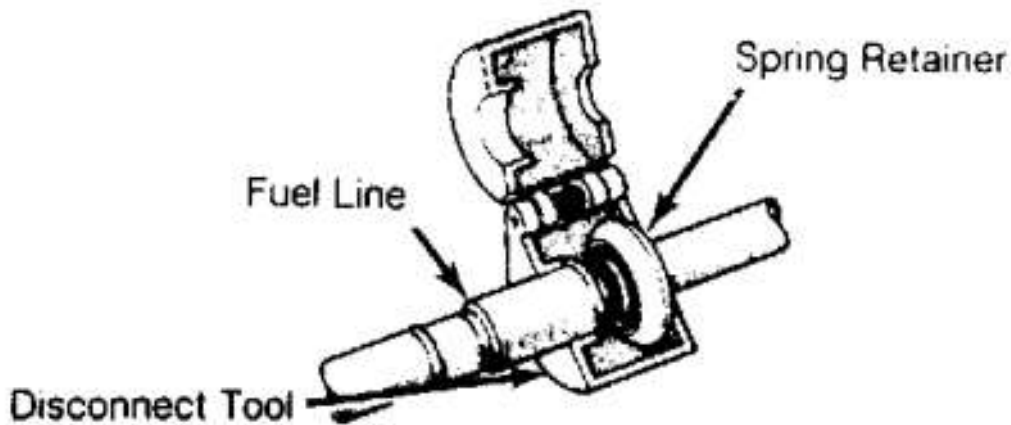

Fig. 2: Disconnecting Fuel Lines
6. Disconnect Thick Film Ignition (TFI) connector at distributor. Disconnect oil pressure sender. Release fuel pressure. See **FUEL PRESSURE RELEASE**. Using Disconnect Tool (D87L-9280-A) for 3/8" line or (D87L-9280-B) for 1/2" line, disconnect fuel supply and return lines. See **Fig. 2**.
2. Remove A/C compressor and power steering pump with hoses attached (if equipped). Disconnect heater hoses from engine. Release fuel pressure. See **FUEL PRESSURE RELEASE**. Using Disconnect Tool (D87L-9280-A) for 3/8" line or (D87L-9280-B) for 1/2" line, disconnect fuel supply and return lines. See **Fig. 2**.
2. Using Disconnect Tool (D87L-9280-A) for 3/8" line or (D87L-9280-B) for 1/2" line, disconnect fuel supply and return lines. See **Fig. 2**. Remove fuel injector wiring harness. Remove upper radiator hose and heater hoses.